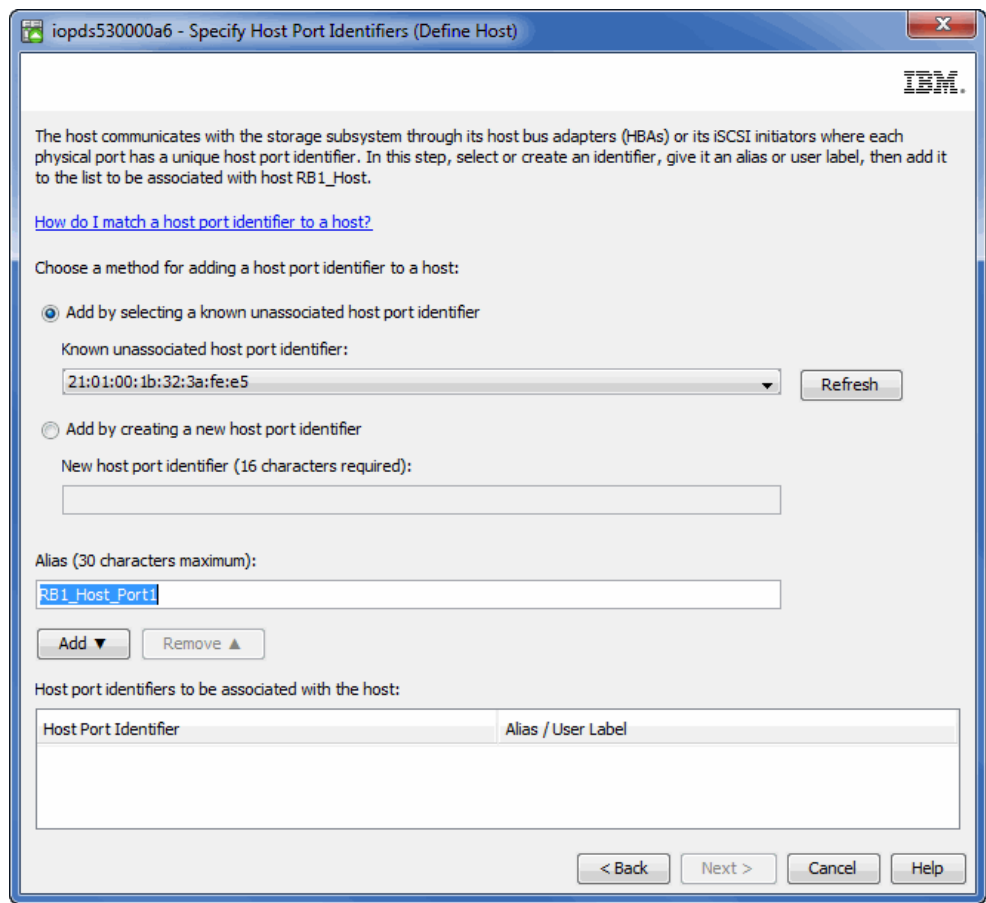

Figure 2-63 Creating the Host adapter
4. We must now define the host port or ports. For SAN Boot, we only configure one port now and add the other later. It is where we need the WWPN recorded earlier in 2.6, “QLogic HBA configuration” on page 33 or 2.7, “Emulex HBA configuration” on page 42. You also need to create an Alias for the adapter. We used RB1_Host_Port1, because it is port1 on a 2 channel adapter. Click **Add**, as shown in Figure 2-63.